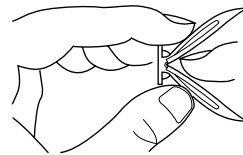

Figure 6 - Folding Anchor
2. Fold wall anchor (see Figure 6).